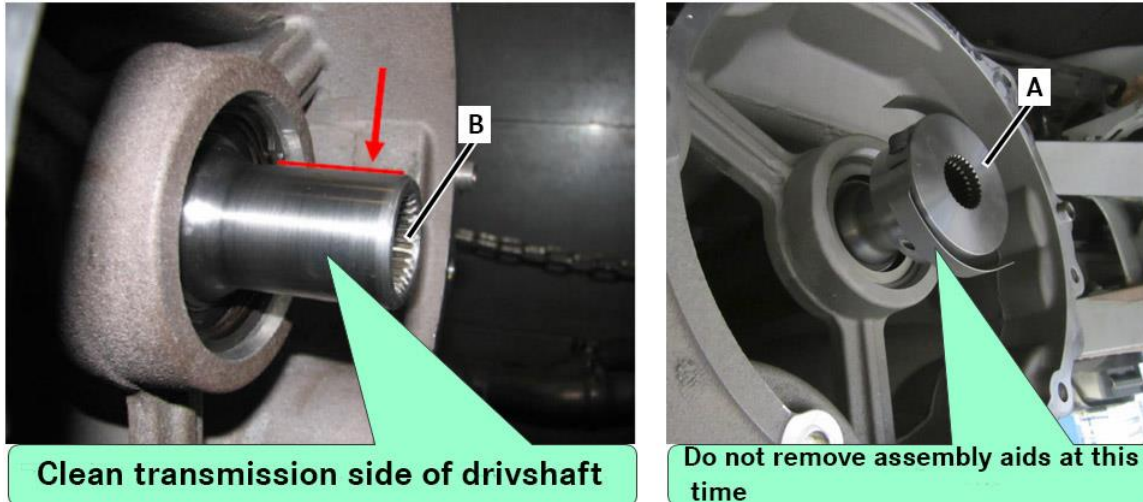
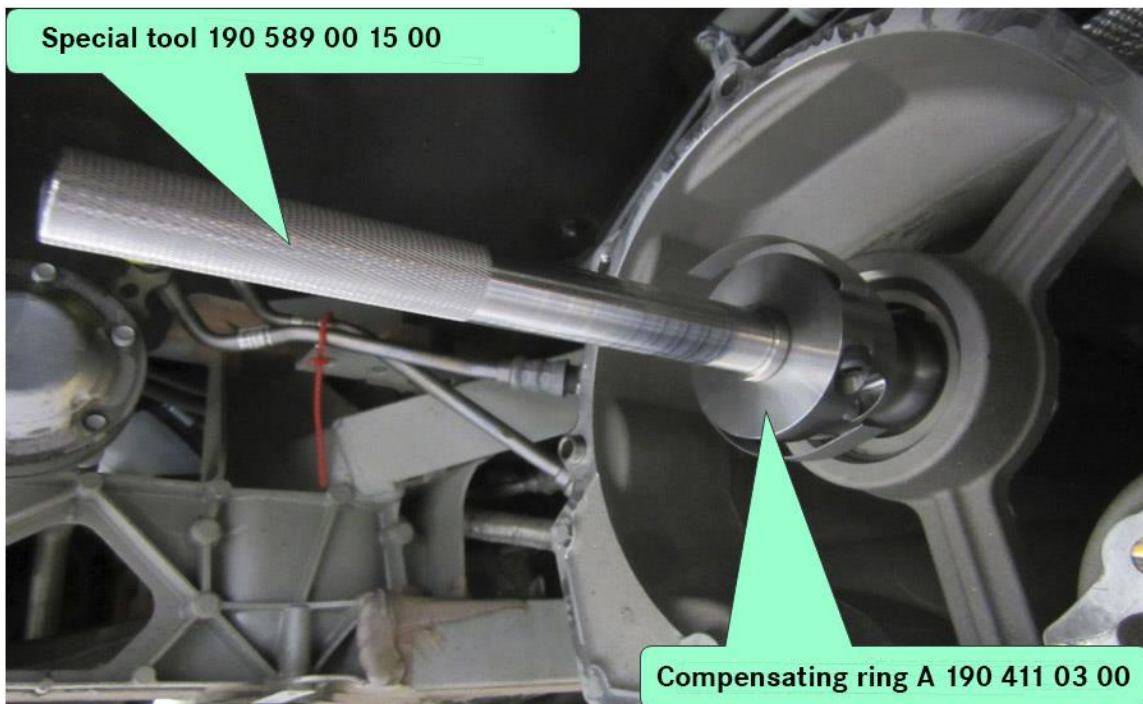
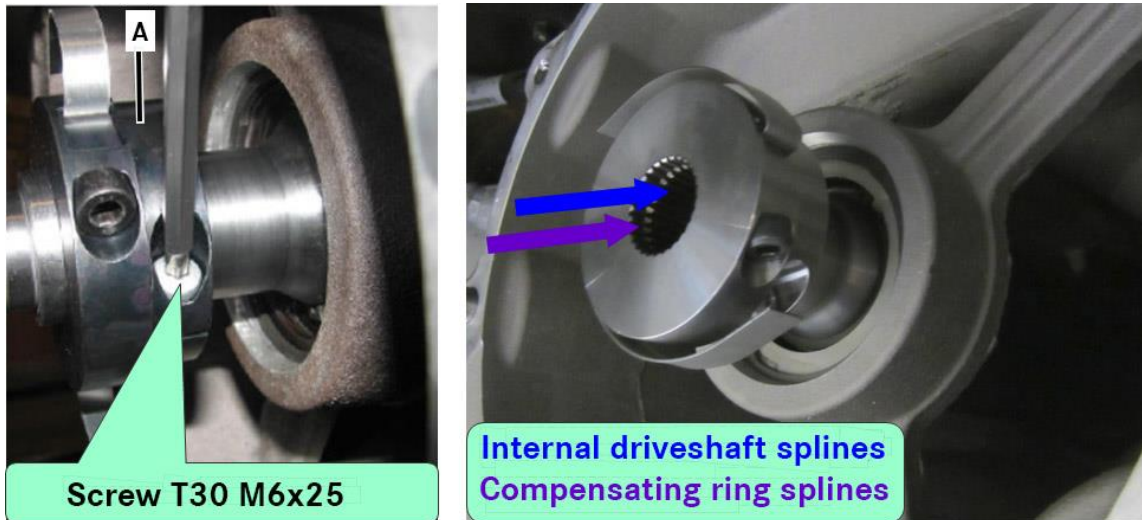

Figure 2
Figure 3
Figure 4
- A new compensating ring (A, Figure 2) must be installed.
1. Clean transmission side of drive shaft end (arrow, Figure 2) of any lubricants.
2.  Slide new compensating ring (A, Figure 2) onto driveshaft (arrow) **up to end stop**.
Do not remove assembly aids/fastening plates (Figure 2) at this time.
3. Center drive shaft gearing (B, Figure 2) and compensating ring (Figure 3) using assembly drift;  special tool: 190 589 00 15 00 (Figure 3).
4. Tighten compensating ring's clamping ring (A, Figure 4) to drive shaft using **new** clamping screw (Figure 4); **Nm** torque **new** clamping screw (Figure 4) to 10 Nm. The assembly drift (special tool, Figure 3) may now be removed.
- The **new** clamping screw (Figure 4) is coated with thread locking compound.
- Part number for **new** clamping screw (Figure 4) is: N 000000 006551